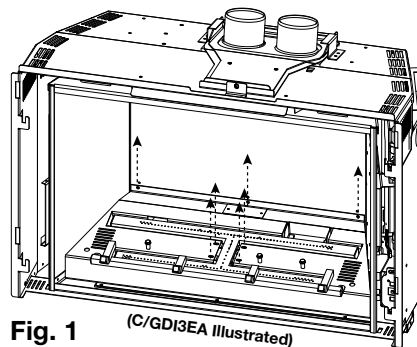

Fig. 1 (C/GDI3EA Illustrated)
- 2. Remove the 7 screws that secure the log cover in place. Lift the cover out (**Fig. 1**).